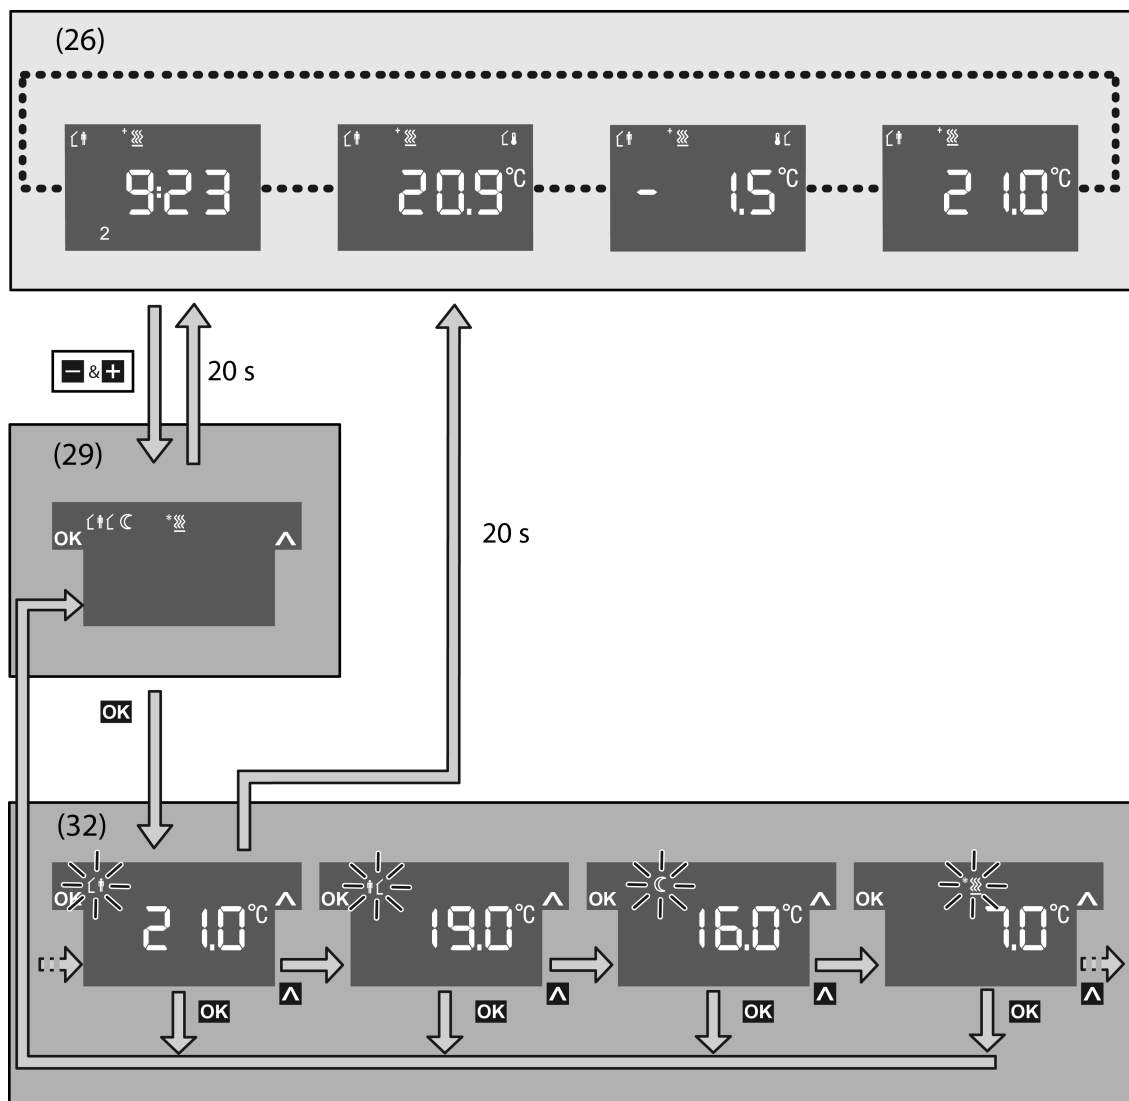

Figure 11: Submenu for operating mode selection
- Using the right display button , select the menu item for the operating mode switch (29) (Figure 11).